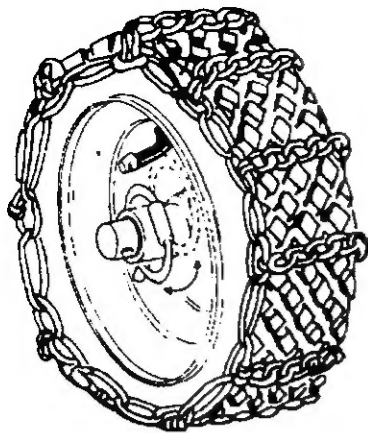

FIGURE 13.
1. Dual Wheel Drive—For heavy snow, insert the kwik pins into the wheel hubs for power drive to both wheels. See figure 13.